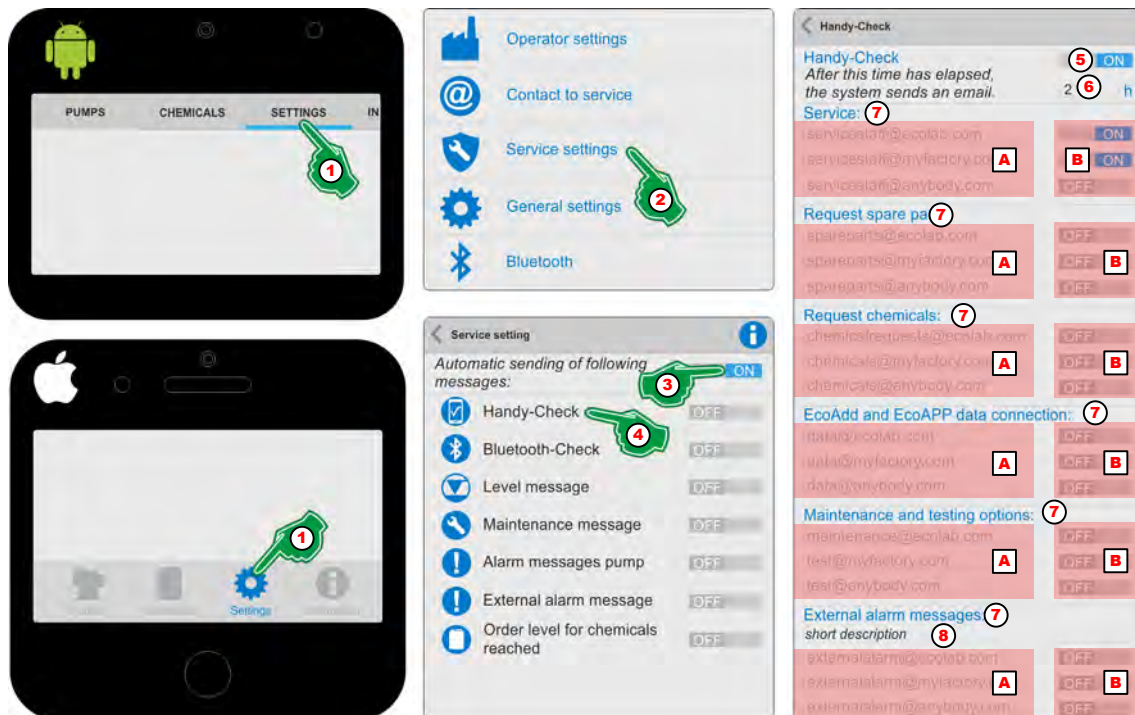
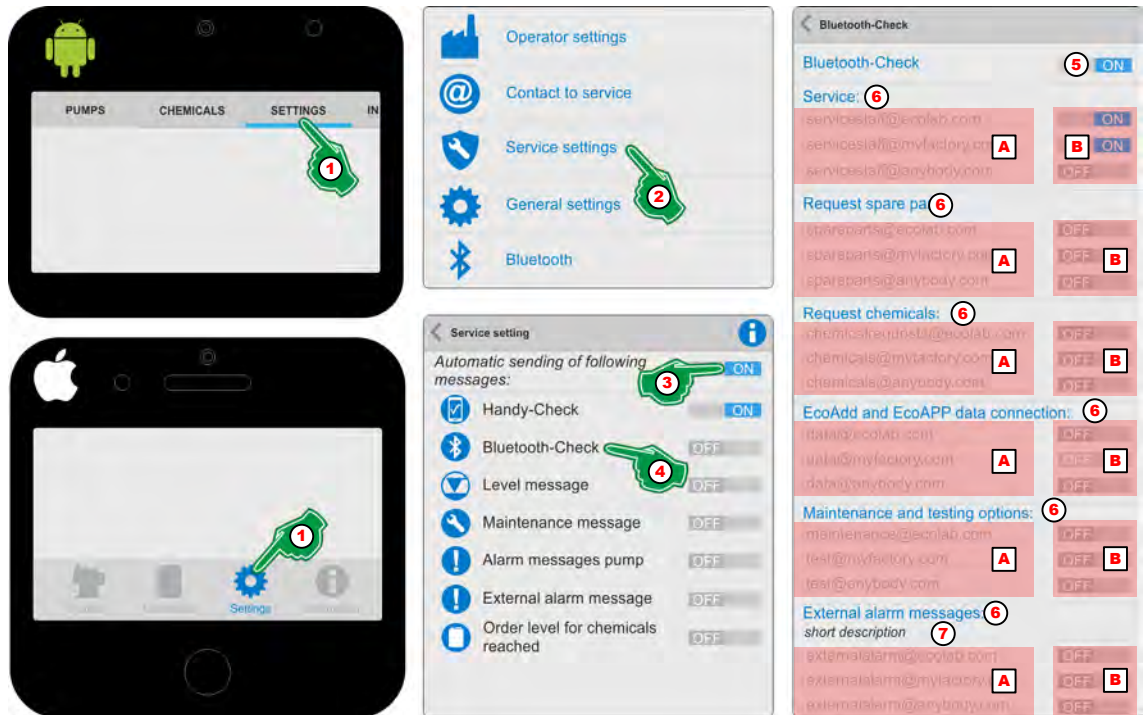

Fig. 6: 'Mobile phone check'
Fig. 7: ‘Bluetooth check’
1. Select [Settings] (Fig. 6, Pos. 1).
2. Select [Service Settings] (Fig. 6, Pos. 2).
3. Turn on 'Automatic sending of following messages' (Fig. 6, Pos. 3) **ON**.
4. The symbol or designation 'Select Mobile phone check' (Fig. 6, Pos. 4).
5. Turn on 'Mobile phone check' (Fig. 6, Pos. 5) **ON**.
6. Set the desired time difference (Fig. 6, Pos. 6) until an alarm message is triggered if the mobile phone cannot be reached (offline).
7. Turn on desired service contacts (Fig. 6, Pos. A) **ON** (Fig. 6, Pos. B).
8. To display errors when using an external controller (Fig. 6, Pos. 7) introduce a short description (Fig. 6, Pos. 8) for identification.
1.  Select [Settings] (Fig. 7, Pos. 1).
2.  Select [Service Settings]  (Fig. 7, Pos. 2).
3.  Turn on ‘Automatic sending of following messages’ (Fig. 7, Pos. 3) **ON**.
4.  Select the symbol ‘Bluetooth check’  (Fig. 7, Pos. 4).
5.  Turn on ‘Bluetooth check’ (Fig. 7, Pos. 5) **ON**.
6.  Turn on the desired service contacts (Fig. 7, Pos. A) **ON** (Fig. 7, Pos. B) .
7.  To display errors when using an external controller (Fig. 6, , Pos. 7) introduce a brief description (Fig. 7, Pos. 8) for identification.